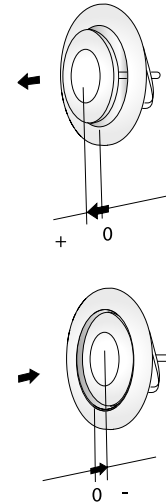

Figure 2. Commissioning.
The extract air valve can be commissioned by measuring the pressure or the air flow. For pressure measurement, use a so-called "measuring hook" (probe) and for air flow measurement use a commonly marketed air flow meter. See Figures 2 and 3.
- Specify the correction K_{OK} of the octave bands for the zero position of the cone as shown in Figure 2.